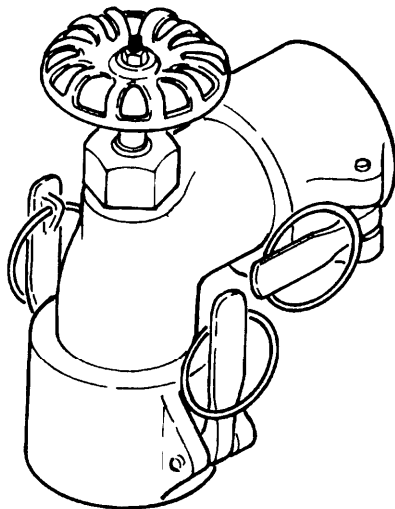

Figure 1-8. Elbow Coupler Valve.
**1-13. ELBOW COUPLER VALVE.** (Refer to Figure 1-8.)